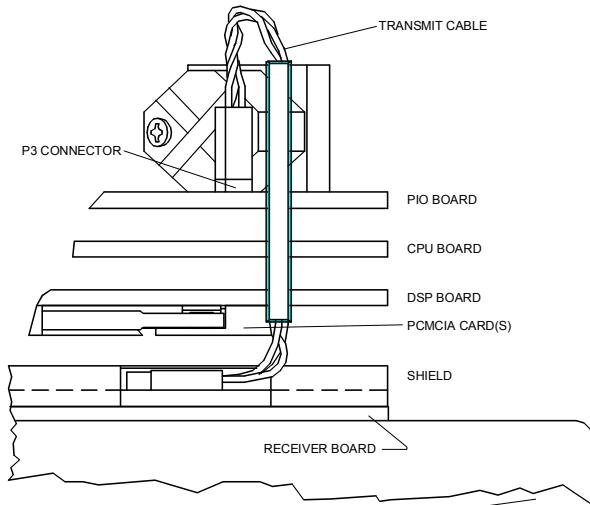

Figure 47. Transmit Cable
- c. Note the orientation of the transmit cable connector as it is plugged into the PIO board and to the Receiver board (see Figure 47).